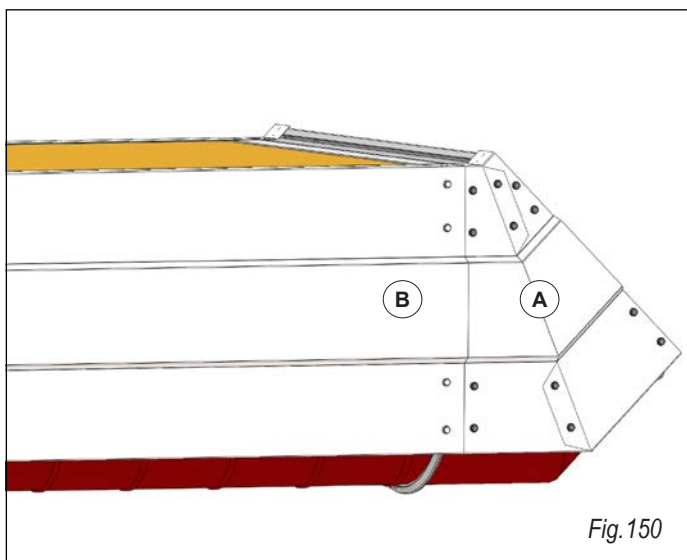
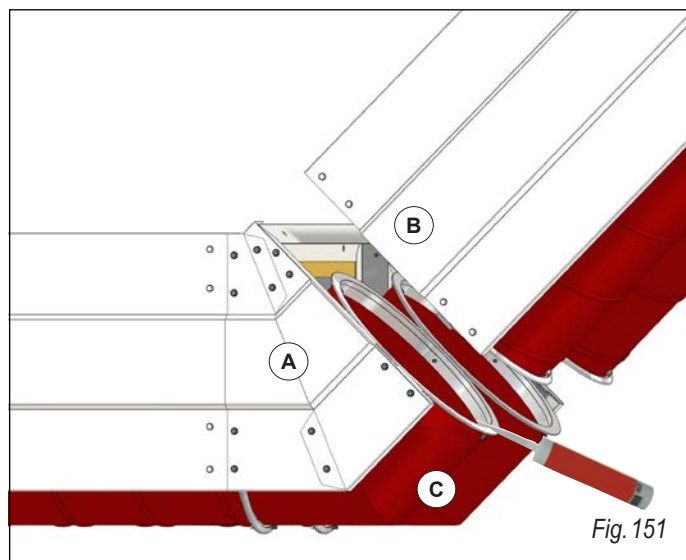

Fig. 150
Fig. 151
Fix the first part of the height variation to the radiant module (Fig. 150). Put some silicone on both sides in the coupling flanges of the bend as in fig. 151 (C).